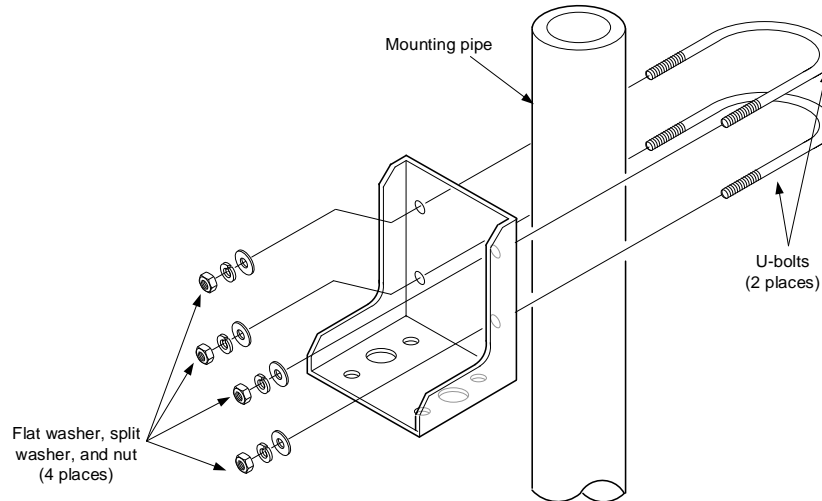

Figure 16: Pipe mounting bracket assembly
3. Secure the mounting bracket to the mounting pipe with two U-bolts, flat washers, split washers and bolts (Figure 16).